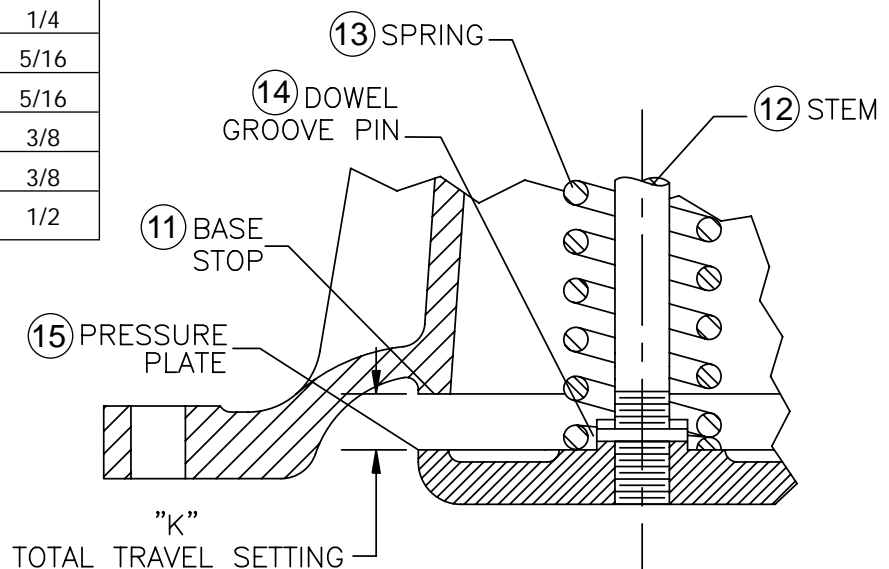

FIGURE 6
Valve setting is gaged at K to establish correct stem length and diaphragm position. Dimension "K" is supplied with each replacement stem. For metal diaphragm valves, "K" is cast on the upper face of pressure plate (15) (Fig. 6).
Main stem (12) shown on Figure 6 is slotted for rotation with a screwdriver, Valve spring (13) is omitted from the assembly during grinding. Slip the stem into its normal position. apply compound to the disc, place it on the stem and tighten with one stem nut.